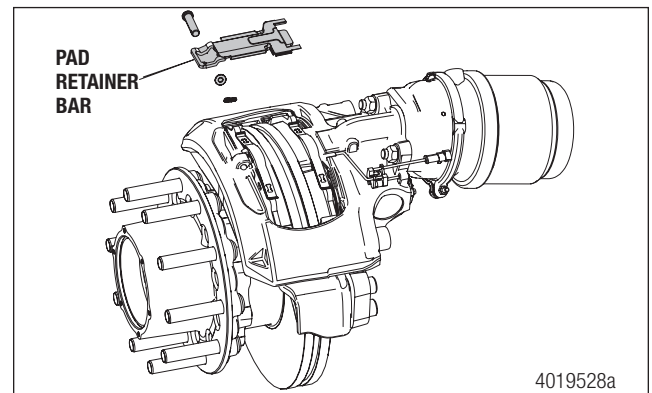

Figure 4
7. Remove the retainer pin clip, washer and pin from the retainer bar. Remove the retainer bar from the slot in the caliper. Figure 4.